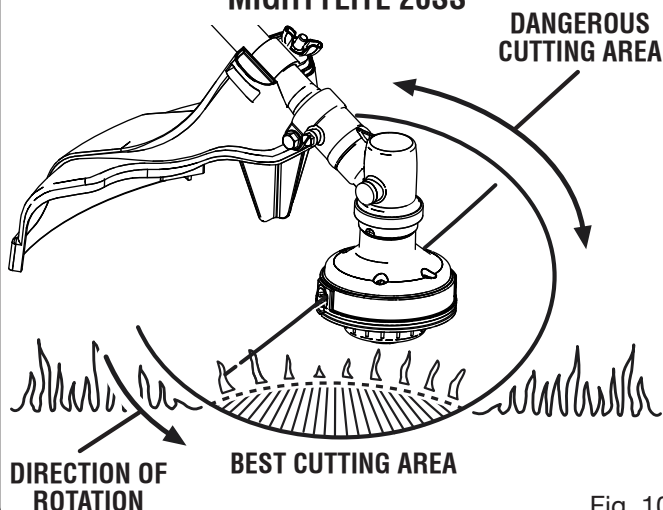

Fig. 10
- The curved shaft trimmer cuts when passing the unit from right to left. The straight shaft trimmer cuts when passing the unit from left to right. This will avoid throwing debris at the operator. Avoid cutting in the dangerous area shown in figure 10.